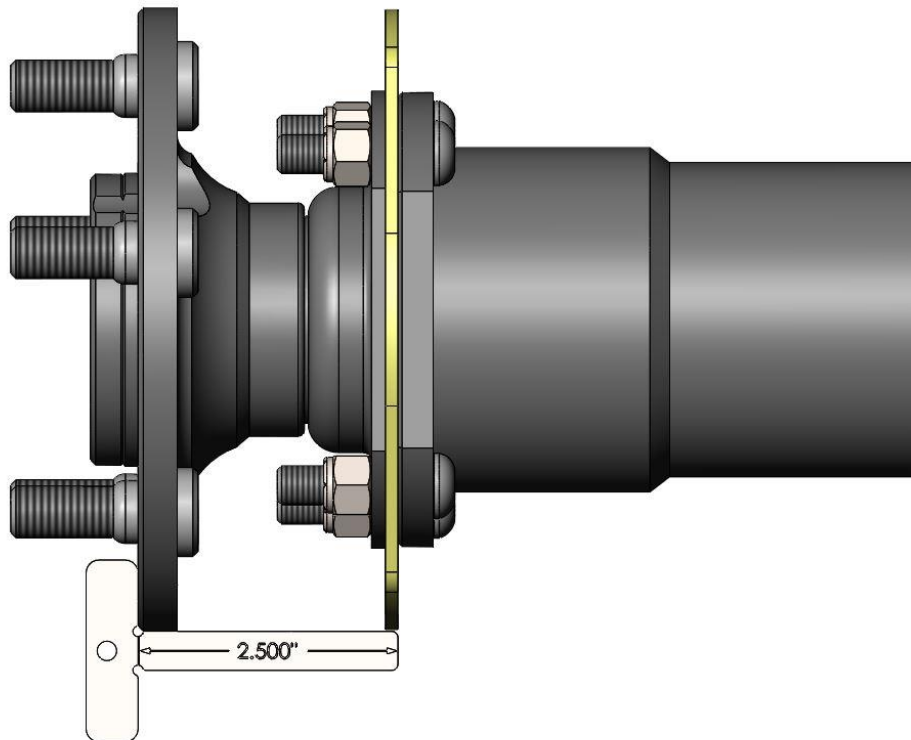

Figure 3 – Measuring Axle Standoff (2.500" Standoff Shown)
- The standoff of the rear axle must be determined next. This is achieved by taking the supplied depth gauge and holding it flat on the face of the axle flange. If the end of the depth gauge is flush with the back side of the previously installed Caliper Bracket Mounting Flange, your standoff is 2.500". If the end of the depth gauge is sticking past the end of the previously installed Caliper Bracket Mounting Flange by approximately .125", your axle standoff is 2.375". Refer to Figure 3 below for reference on how to measure your standoff.